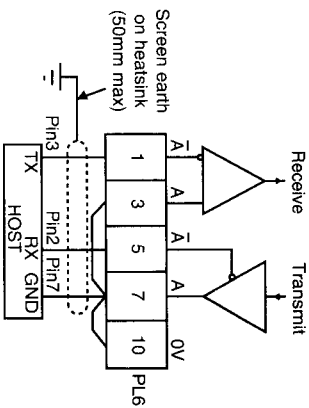
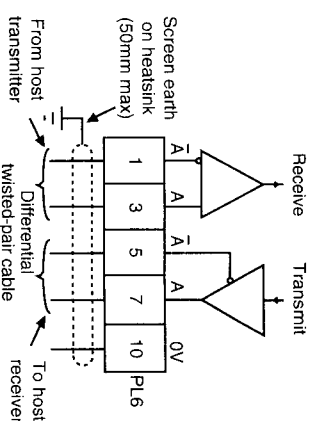

Figure 7-1
Figure 7-2
Refer to Fig. 7-1.
Refer to Figs. 7-2 and 7-4.
**Note :** The 100 Ohm terminating resistor (R113) can be fitted into one of the FMV 2105 Drives. For Serial Port pin connections, refer to Fig. 7-2.
The communication port of the drive module is the four terminals 1, 3, 5, 7 (PL6), and the 0V terminal 10 (PL6). The standard connection is five wire RS485, or RS422 (refer to Fig. 7-2), three wire RS232 can be used in some systems (refer to Fig. 7-1).